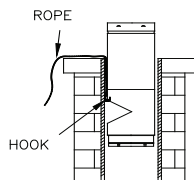

Fig. 10
4. To lower the liner into the chimney, we suggest that you tie a small hook to a long rope and grip the hook on the tee. Make sure the rope is on the outside of the liner, so you will be able to add lengths and lower the assembly down the chimney (fig. 10). Add lengths until the liner protrudes about 10" above the masonry chimney top.